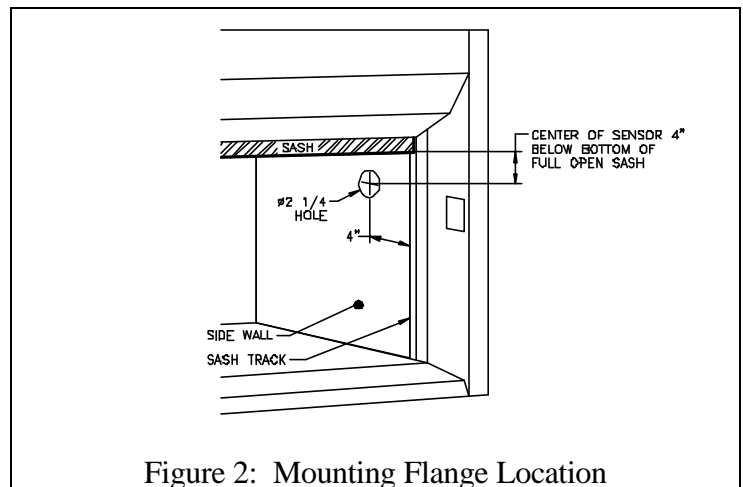

Figure 2: Mounting Flange Location
Step 2: Determine MOUNTING FLANGE location. Use FIGURE 2 as a guide.